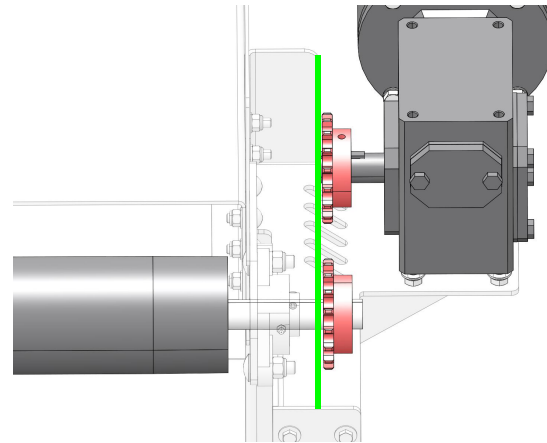

FIG. 3-8
3. Ensure the roller sprocket and drive sprocket are aligned as shown in FIG. 3-8.